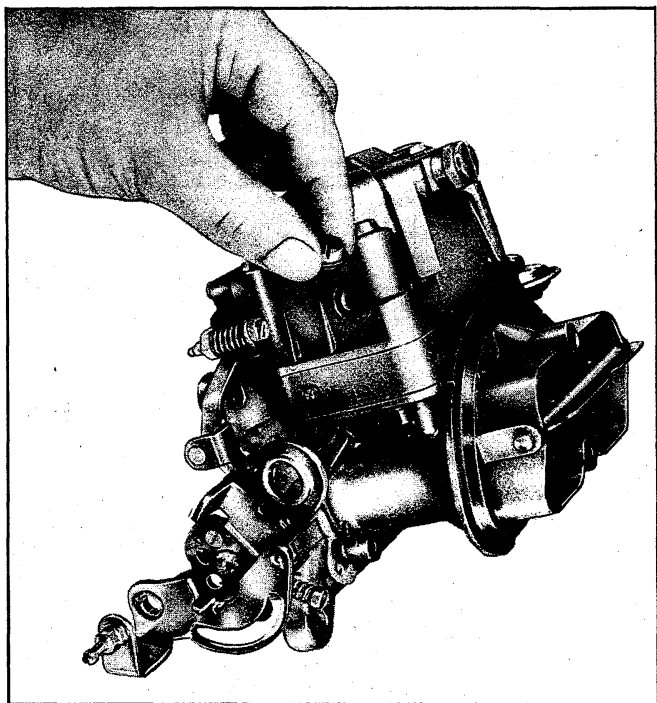

Fig. 3C—Fuel Level Sight Plug
1. Remove air cleaner then remove the fuel level sight plugs (Fig. 3c)